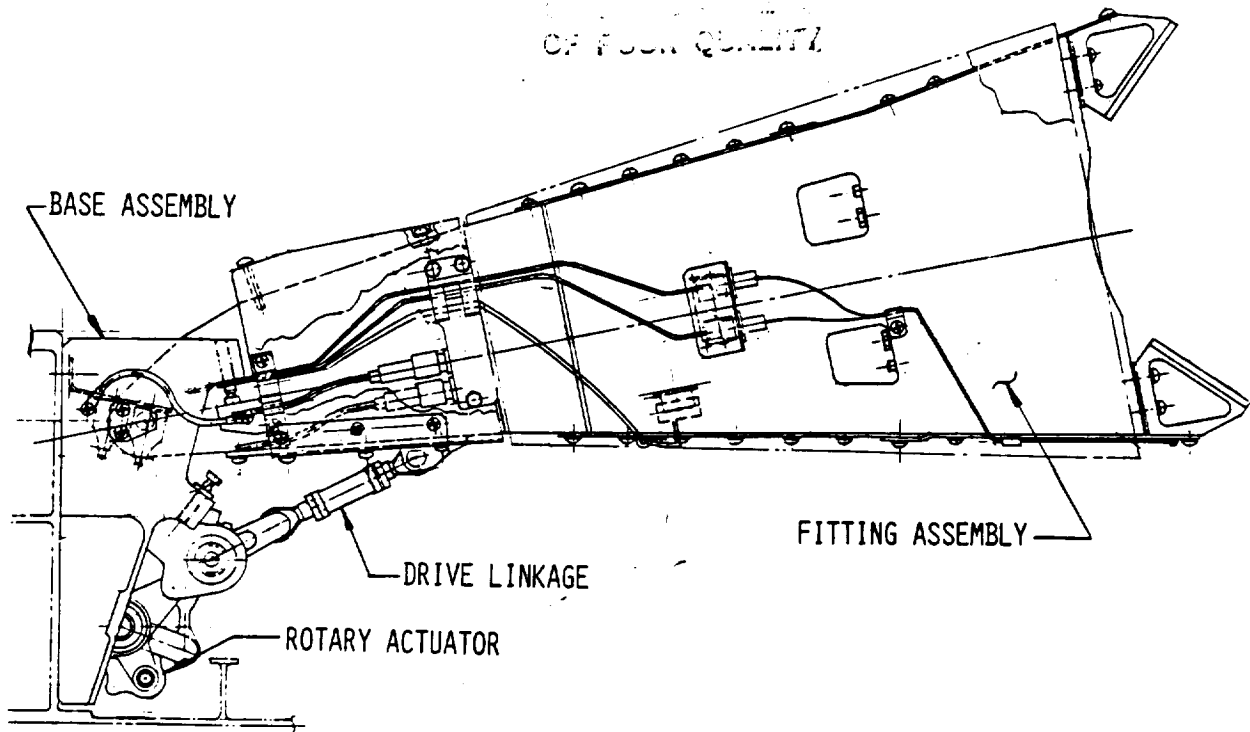

Figure 3. Manipulator Positioning Mechanism Pedestal Assembly
- A. Shoulder Assembly - Support of all loads experienced as a result of in flight operation of the arm (See Figure 3).